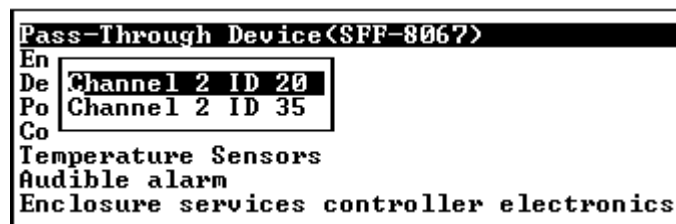

Figure 3-7: Pass through device
- **Pass Through Device:** - This selection will show the status of the channels that control the SES device. When this item is selected the menu in *Figure 3-7* will appear on the screen.